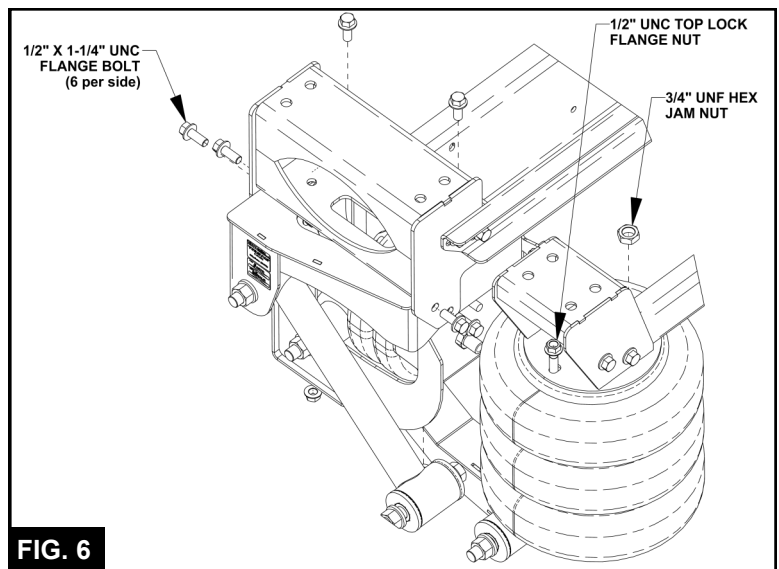

FIG. 6
9.8 Assemble the suspension to the front frame brackets using the provided mounting hardware (See **Fig. 6** for fastener detail)
9.9 Assemble the air springs to rear frame brackets using the 1/2" and 3/4" mounting hardware (See **Fig. 6** for fastener detail).